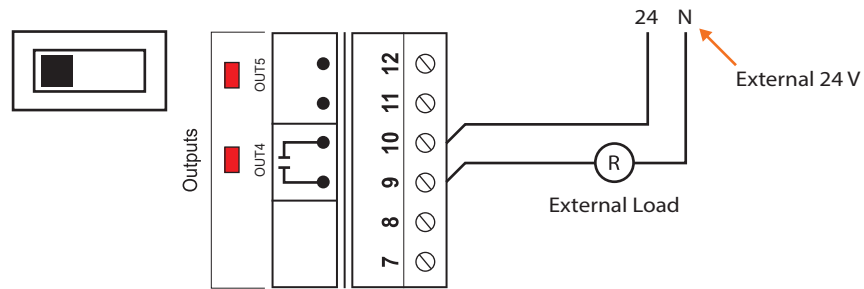

Figure 13 - Connection of Passive Outputs 3 and 4
2) Passive output (SINK). The C1000 opens and closes a contact to allow an external source to power the load (see Figure 13).